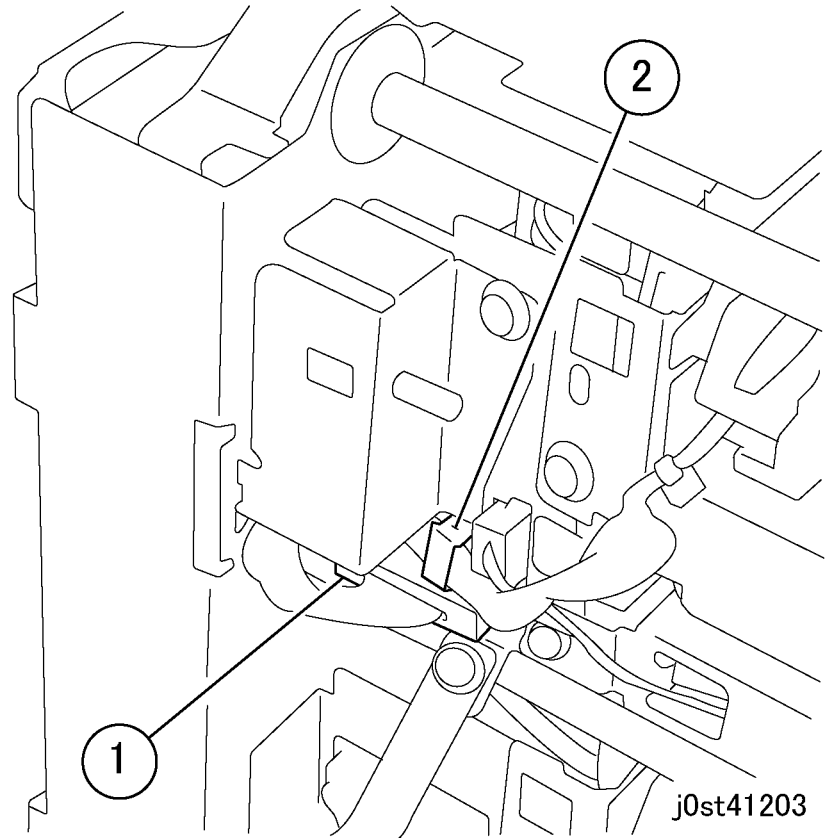

Figure 5 Disconnecting the connector (j0st41203)
7. Disconnect the connector. (Figure 5)